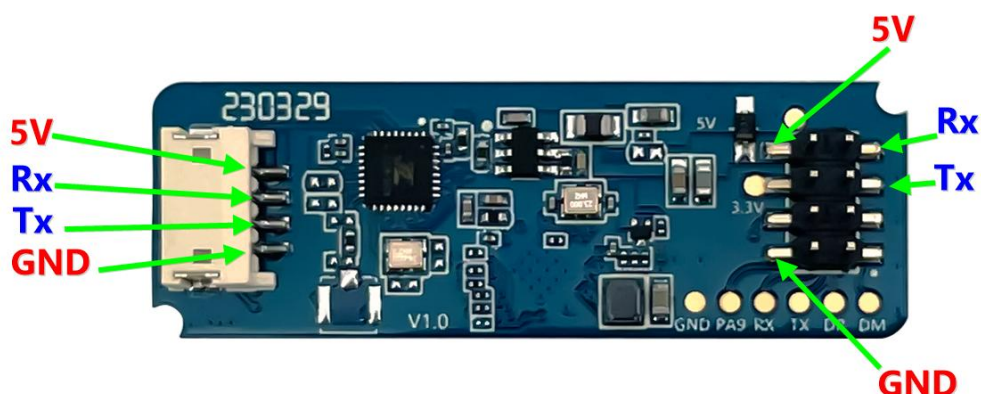

Figure 1 Module pin definition diagram
1. Use the USB-to-serial port tool to correctly connect the serial port of the module. For module pin descriptions, see Figure 1 Module pin definition diagram